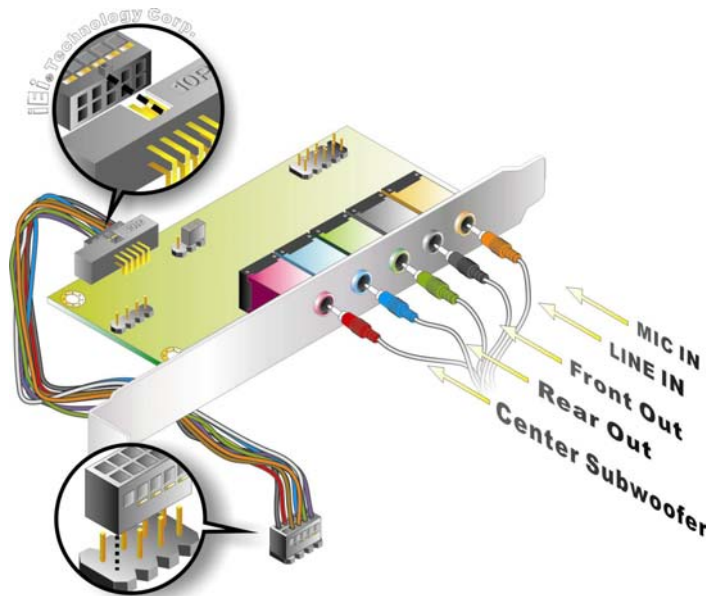

Figure 5-6: 7.1 Channel Audio Kit
- Step 3: Align pin 1.** Align pin 1 on the on-board connector with pin 1 on the audio kit cable connector. Pin 1 on the audio kit cable connector is indicated with a white dot. See Figure 5-6.